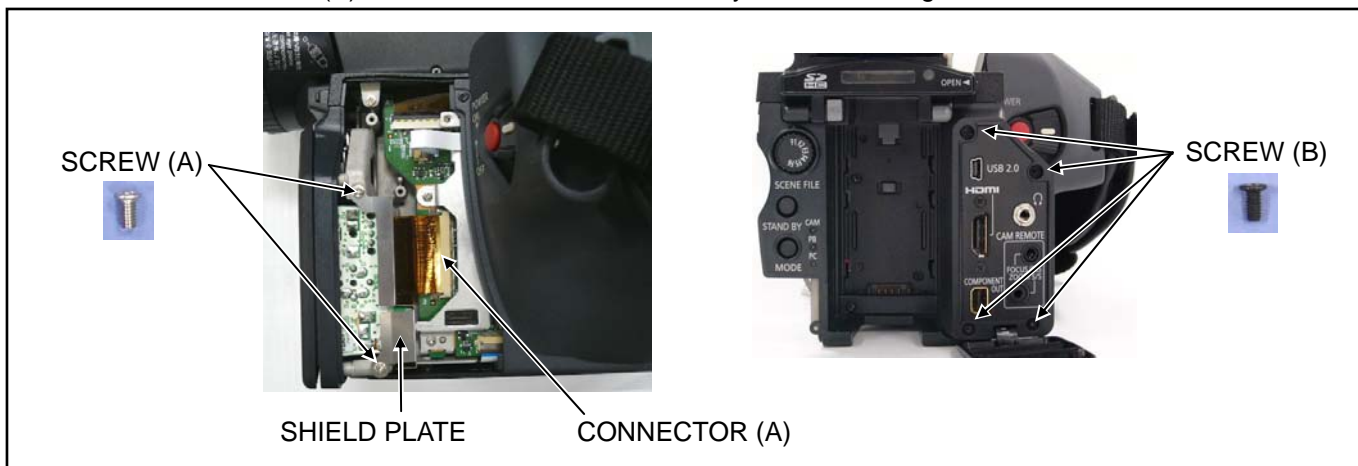

Figure 3-2
2. Unscrew the 2 screws (A) and remove the Shield Plate as shown in figure 3-2.
3. Disconnect a connector (A) as shown in figure 3-2.
4. Unscrew the 4 screws (B) and remove the Rear Jack ass'y as shown in figure 3-2.